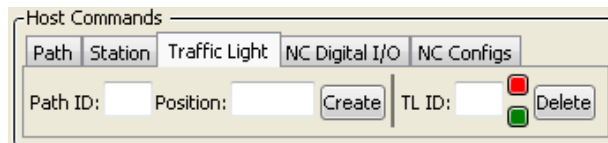

Figure 10: Host Commands Section - Traffic Light Tab
2. In the **Host Commands** section, select the **Traffic Light** tab (see Figure 10).